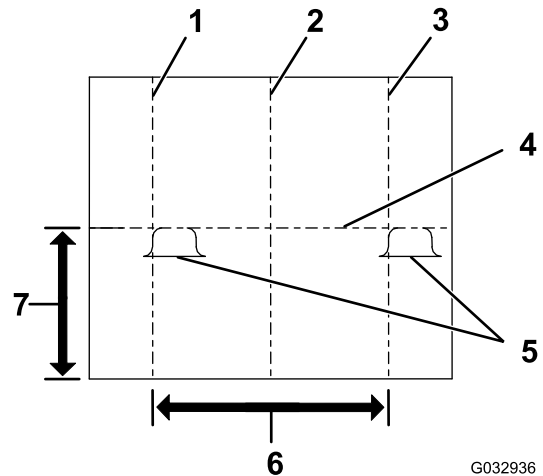

Figure 27
- Mark the vertical vehicle centerline on the screen (Figure 27).
5. Mark the vertical headlight centerline on the screen (Figure 27).
6. Mark the horizontal headlight centerline on the screen (Figure 27).
7. Adjust the plow headlights until the brightest part of the plow low-beam lights are aligned as shown in Figure 27.